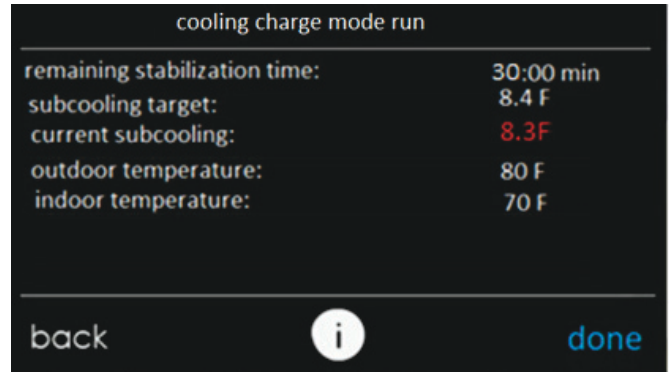

Fig. 20 – Cooling Charge Mode Run Screen
9. Once start has been pressed, the next screen will show the target subcooling that should be attained while charging. If subcooling mode is not available, the current subcooling and target will display as dashes and the refrigerant must be weighed in. Weigh in the charge amount recorded in Step 7. The charge level may then be checked at another time when both the indoor and outdoor temperatures are in a more favorable range that allow for subcooling charging. When subcooling is available, the current subcooling will appear in red (Fig. 20) until the stabilization timer is 0 where it will then turn green, indicating the system has stabilized. “Current subcooling” is calculated using sensors inside the ODU, but may be in error until stabilization time has completed. Compare the “current subcooling” to the “subcooling target” listed on the charging screen. Add refrigerant if the subcooling is low and remove refrigerant if